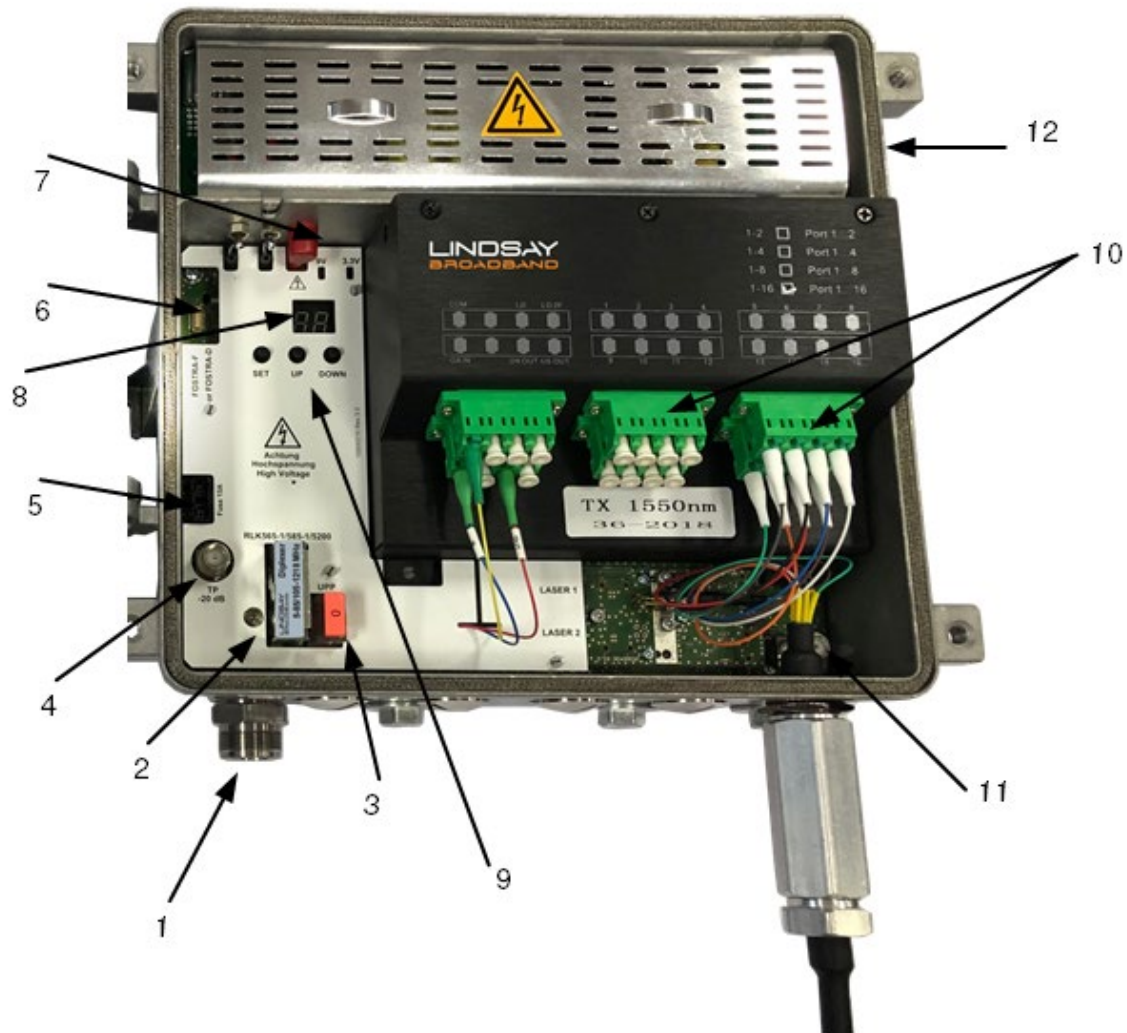
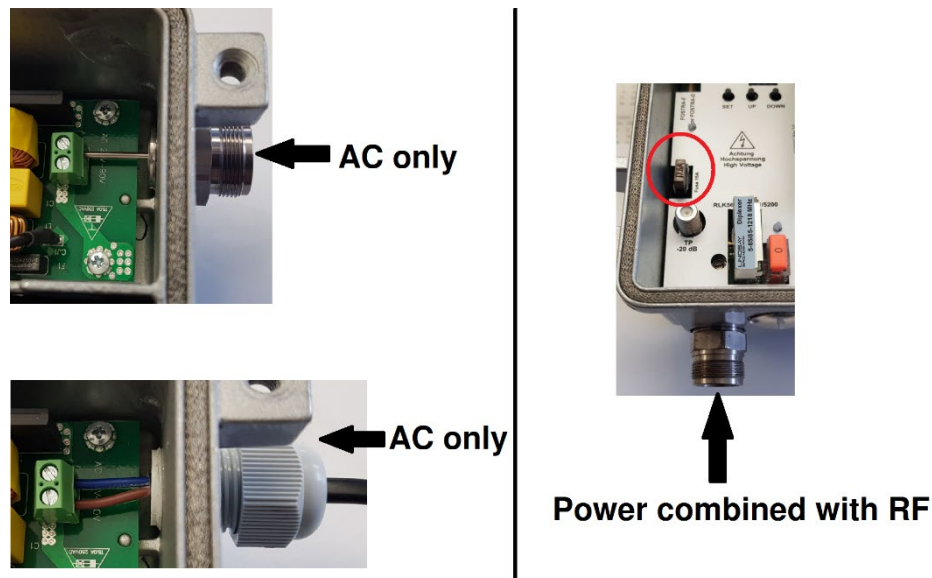

Figure 2: XTENDR Inner View
Figure 3: Powering the XTENDR
12. Auxiliary powering port (see Figure 3). Top screw terminal is “+ve” and bottom screw terminal is ground (chassis).
1. Apply power to the XTENDR node as shown in Figure 3. XTENDR node can be powered with 40-90Vac HFC plant power. For powering from the RF port, plug the fuse into the socket (shown as #5 in Figure 2). XTENDR can also be powered from the auxiliary powering port. At auxiliary power input, the top screw terminal is "+ve" and bottom screw terminal is ground (chassis). No need to plug in the fuse when powering from auxiliary powering port.
3. Levels can be monitored on the bidirectional -20dB Test point (#4 in Figure 2). This test point is 20dB below the actual levels on the RF input/output port.
4. The “UPP” plugin on the XTENDR (#3 in Figure 2) is a 1.2GHz JXP type cable simulator. If no cable simulation is required, plug a 0dB JXP attenuator pad in the UPP plugin.
14. An upstream only test point is available for measuring OMI of the upstream receive levels (#11 in Figure 2). If the **OP** value in the setup menu is set appropriately (close to real value), the output of the test point will be as shown in the table below. If the level of RF on the OMI test point is much different from what is shown in the table below, it means that the OP setting is different from actual upstream receive level.